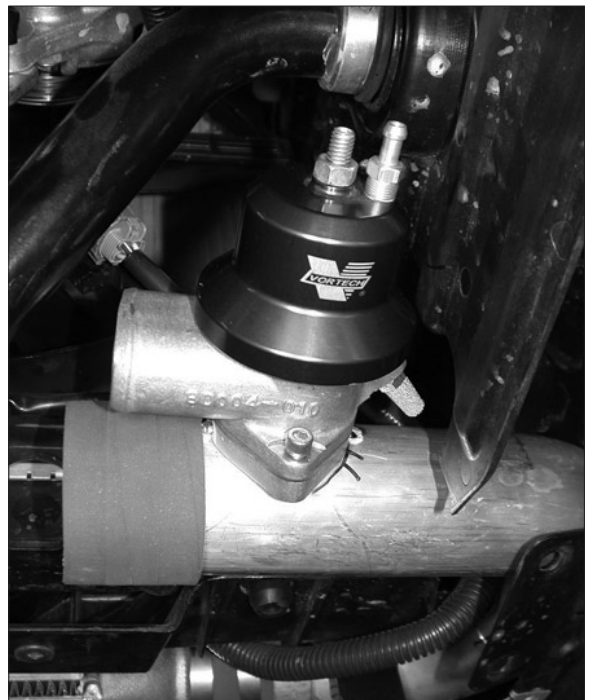

Fig. 9-a
- A. Using the supplied gasket and 1/4" hardware, install the bypass valve onto the flange on the passenger's side under the vehicle. (See Fig. 9-a.)